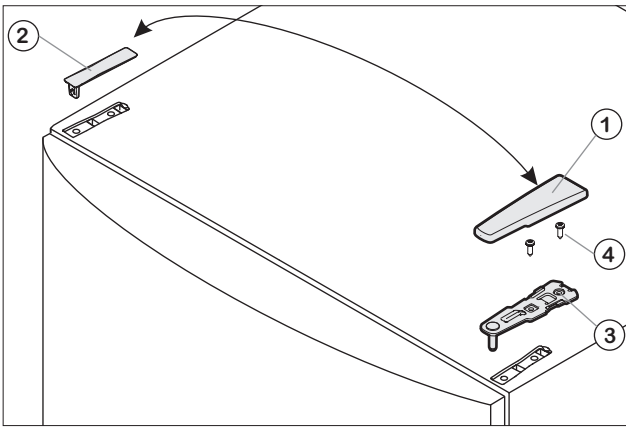

Fig. 1
- Remove cover Fig. 1 (1) and cover Fig. 1 (2).
- Screw off the upper bearing block Fig. 1 (3) (2 mal Torx 25) Fig. 1 (4) and lift upwards.
- Install the upper bearing block Fig. 1 (3) on the new hinge side and in the door.
- Screw the upper bearing block Fig. 1 (2 x Torx 25) Fig. 1 (4) in tightly.
- Engage cover Fig. 1 (1) and cover Fig. 1 (2) respectively on the opposite side.